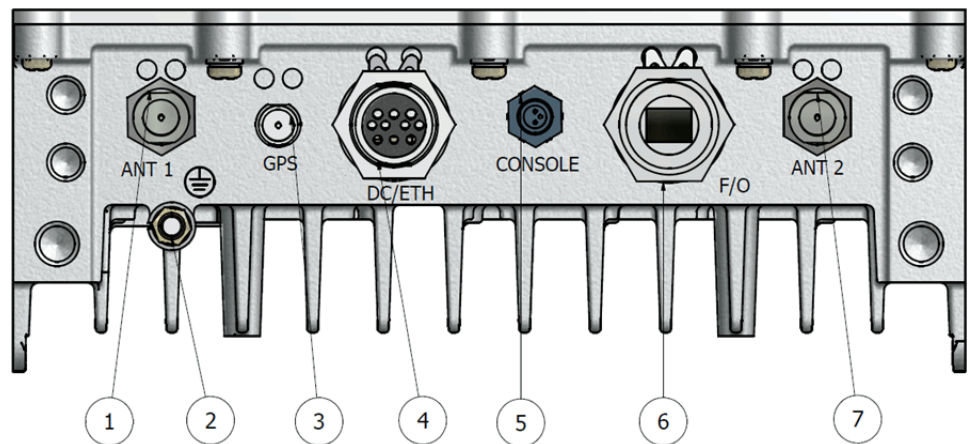

Figure 14: Fiber Optic Ethernet Port Option
3. Connect the optical cable to the F/O connector on the WIN7000 (for more information, see Figure 14).